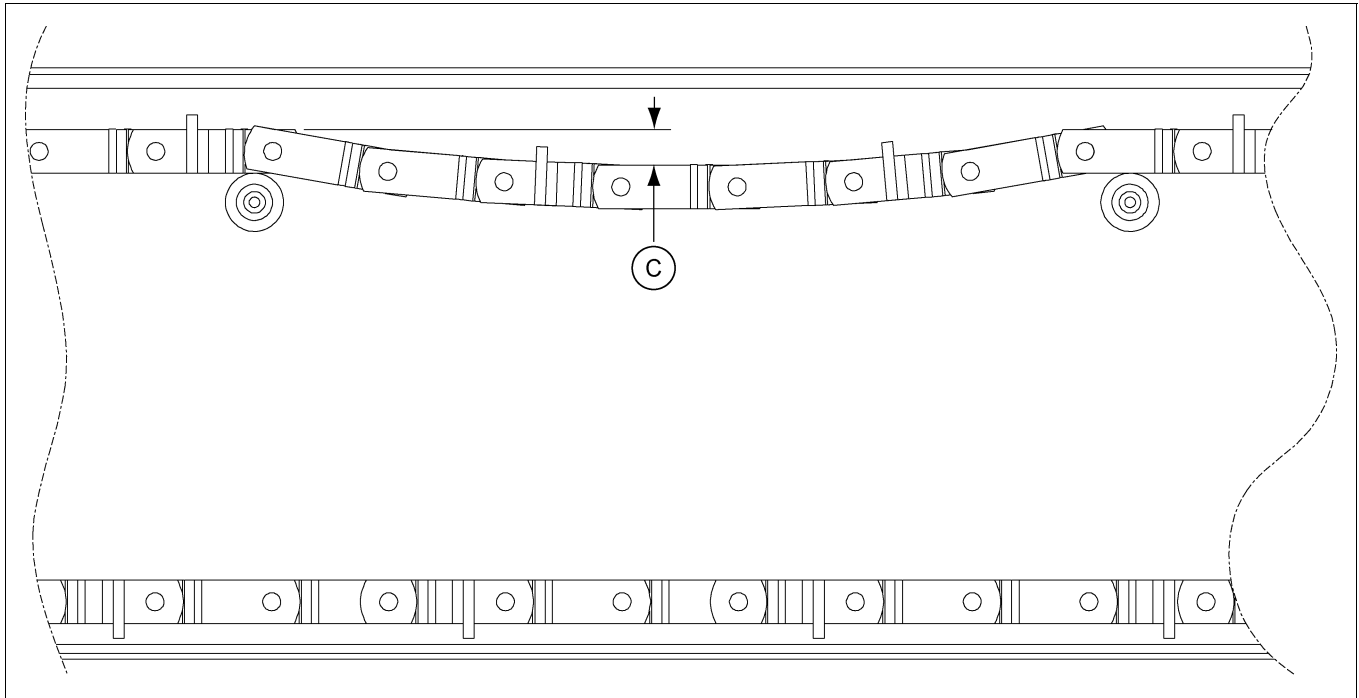

Figure 4G
Tighten the drag chain assembly using the take-up screws located on each side of the tail section or on the take-up head. On conveyors with roller returns, the chain is at the proper tension when a maximum of 1/2" deflection occurs at a point midway between the rollers. (See Figure 4G.) On conveyors with slide rail returns, the chain should be able to be lifted slightly when sufficiently tightened. After the chain is tight, check that the head and tail shafts are square to the box sides. If the shafts are not square, loosen the tighter of the two (2) adjuster screws until the shafts are square. Lock the adjuster screws by tightening the hex nuts against the cross-ways "C" channel.